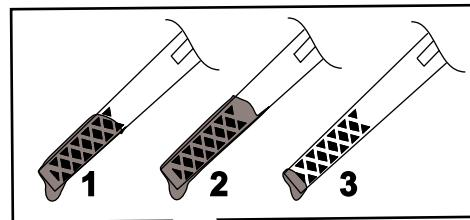

Figure 5
5. Remove the dipstick and read the oil level on the dipstick (Figure 5).
2. Remove the dipstick (Figure 5) and pour about 3/4 of the crankcase capacity of oil into the oil-fill tube.